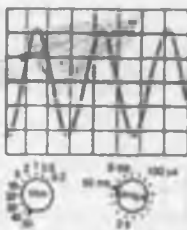

Figure 10.21
- 3 For the sinusoidal waveform shown in Fig. 10.21, determine (a) its frequency, (b) its peak-to-peak voltage, (c) the r.m.s. voltage